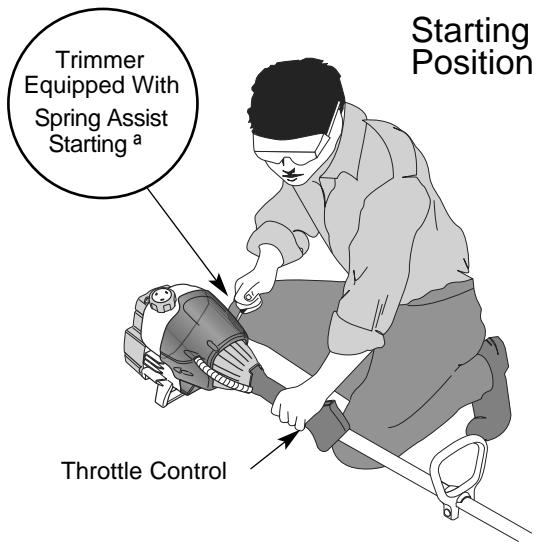

Fig. 11
WARNING: Avoid accidental starting. Make sure you are in the starting position when pulling the starter rope (Fig. 11). To avoid serious injury, the operator and unit must be in a stable position while starting.
4. Crouch in the starting position (Fig. 11), squeeze the throttle control, and pull the starter rope out with a controlled and steady motion 5 times.